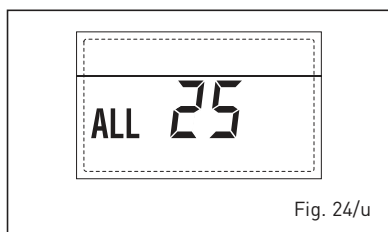

Fig. 24/u
– **ANOMALIA GUASTO SONDA SOLARE S3 "ALL 26" (fig. 24/v)**